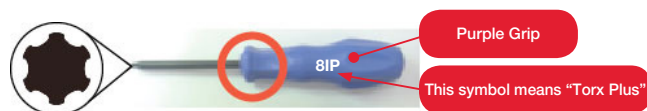

Fig. 1 "Torx Plus" Wrench (For MEW)
- 1) See Fig. 1 for "Torx Plus" Wrench. (Purple grip)